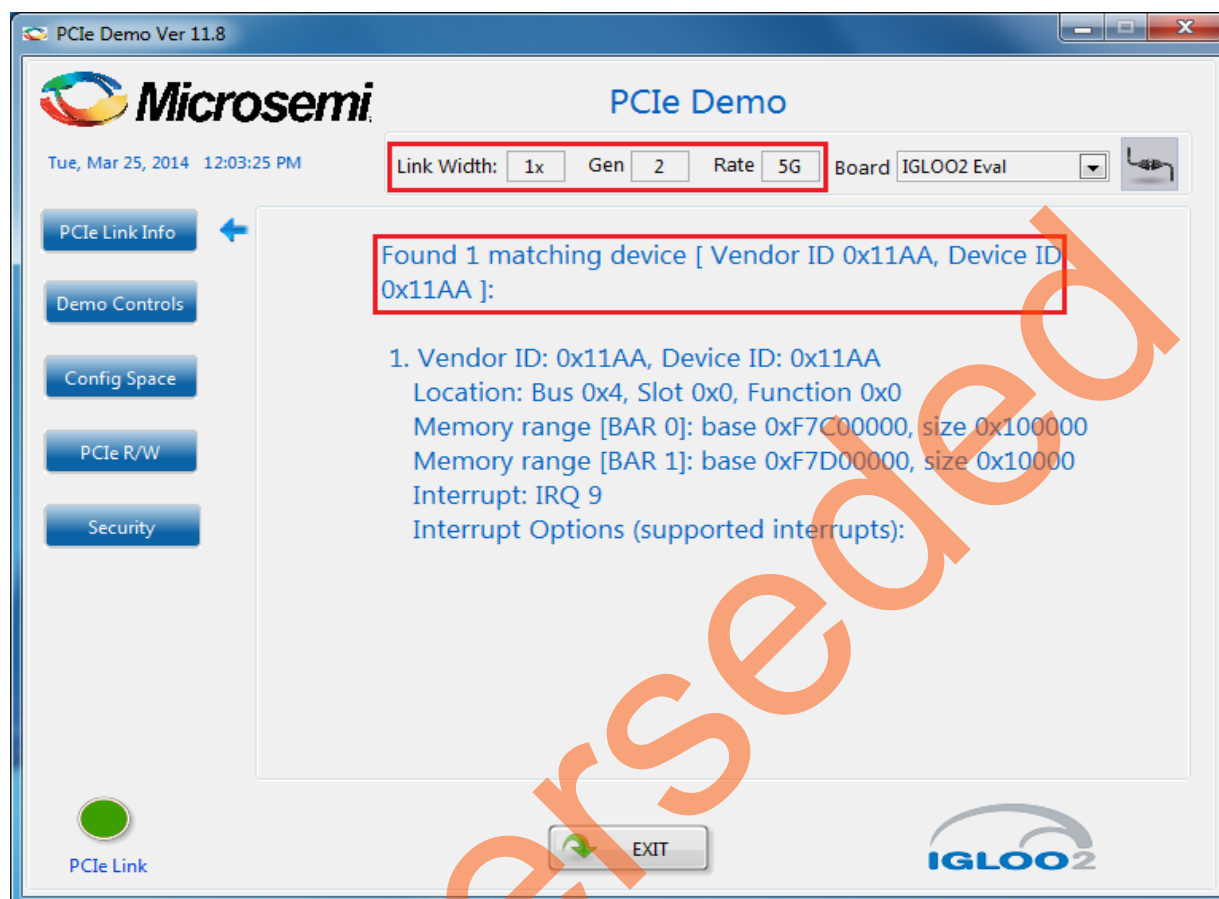

Figure 19 • Version Information
- Click **Connect** at the top-right corner of the GUI. The messages are displayed on the GUI as shown in Figure 19.